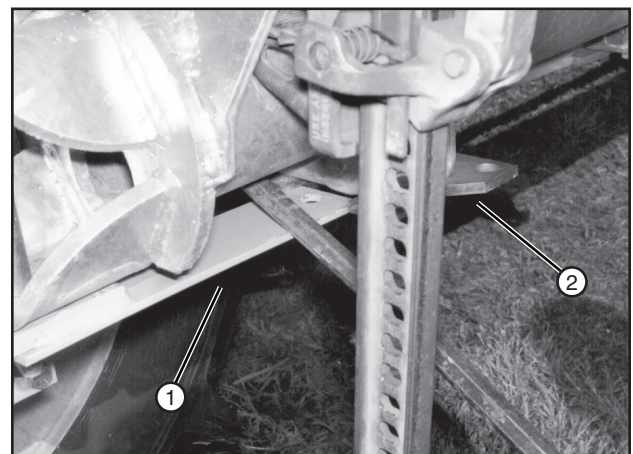

Figure 67-3 1. Steering Arm
6. Make sure the steering arm is latched in the latch plate. See figure 67-3.